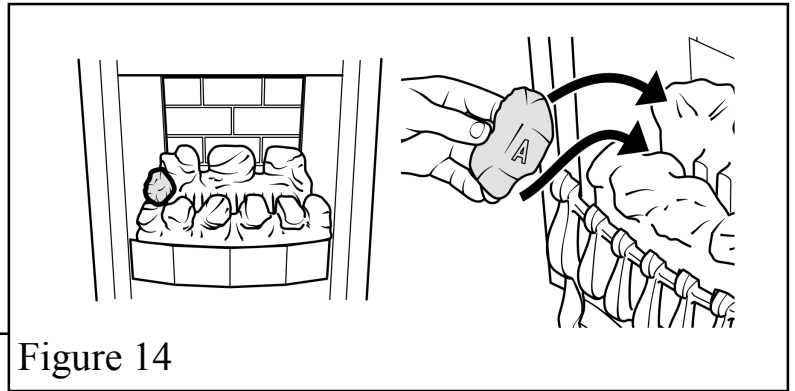

Figure 14
6. Place a type "A" coal between the front and rear base coals with the letter "A" upright and so that the coal is against the left side of the firebox. See figure 14.